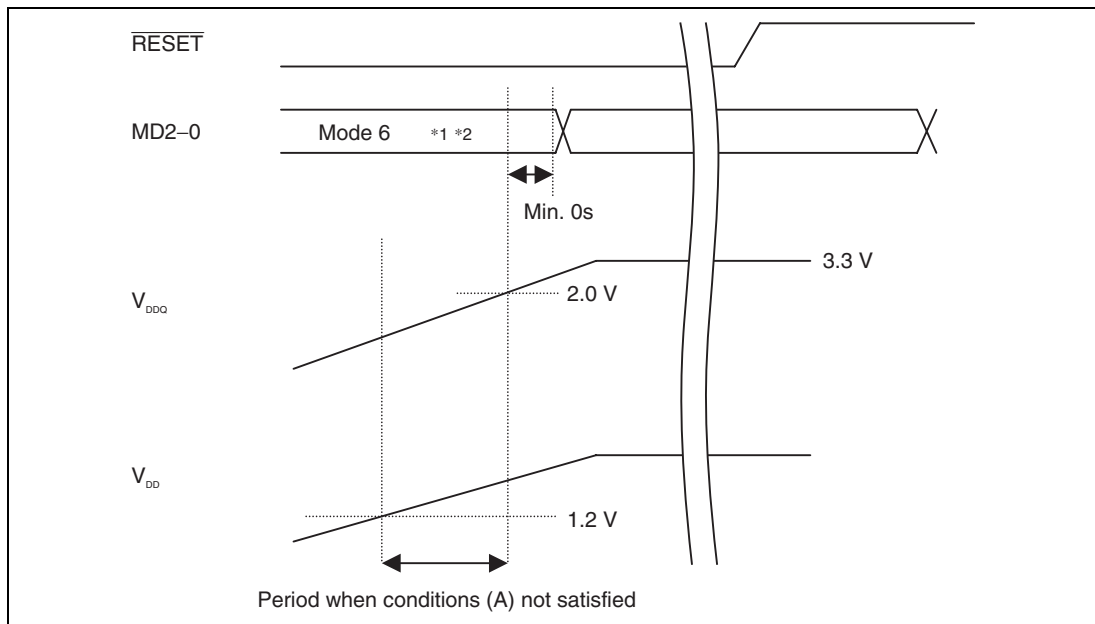

**Figure G.1 Method for Temporarily Selecting Clock Operation Mode 6**
— There are no time restrictions on the power-on sequence for power supply  $V_{DDQ}$  and power supply  $V_{DD}$  with regard to the LSI alone. Refer to figure G.1. Nevertheless, it is recommended that the power-on sequence be completed in as short a time as possible.
- (1) As shown in figure G.1, select mode 6\*1 immediately after power-on, select the desired clock mode once the above conditions (A) are satisfied, and cancel the power-on reset.
- (2) After starting with clock operation mode 6\*1 selected, change FRQCR to specify the desired frequency clock.